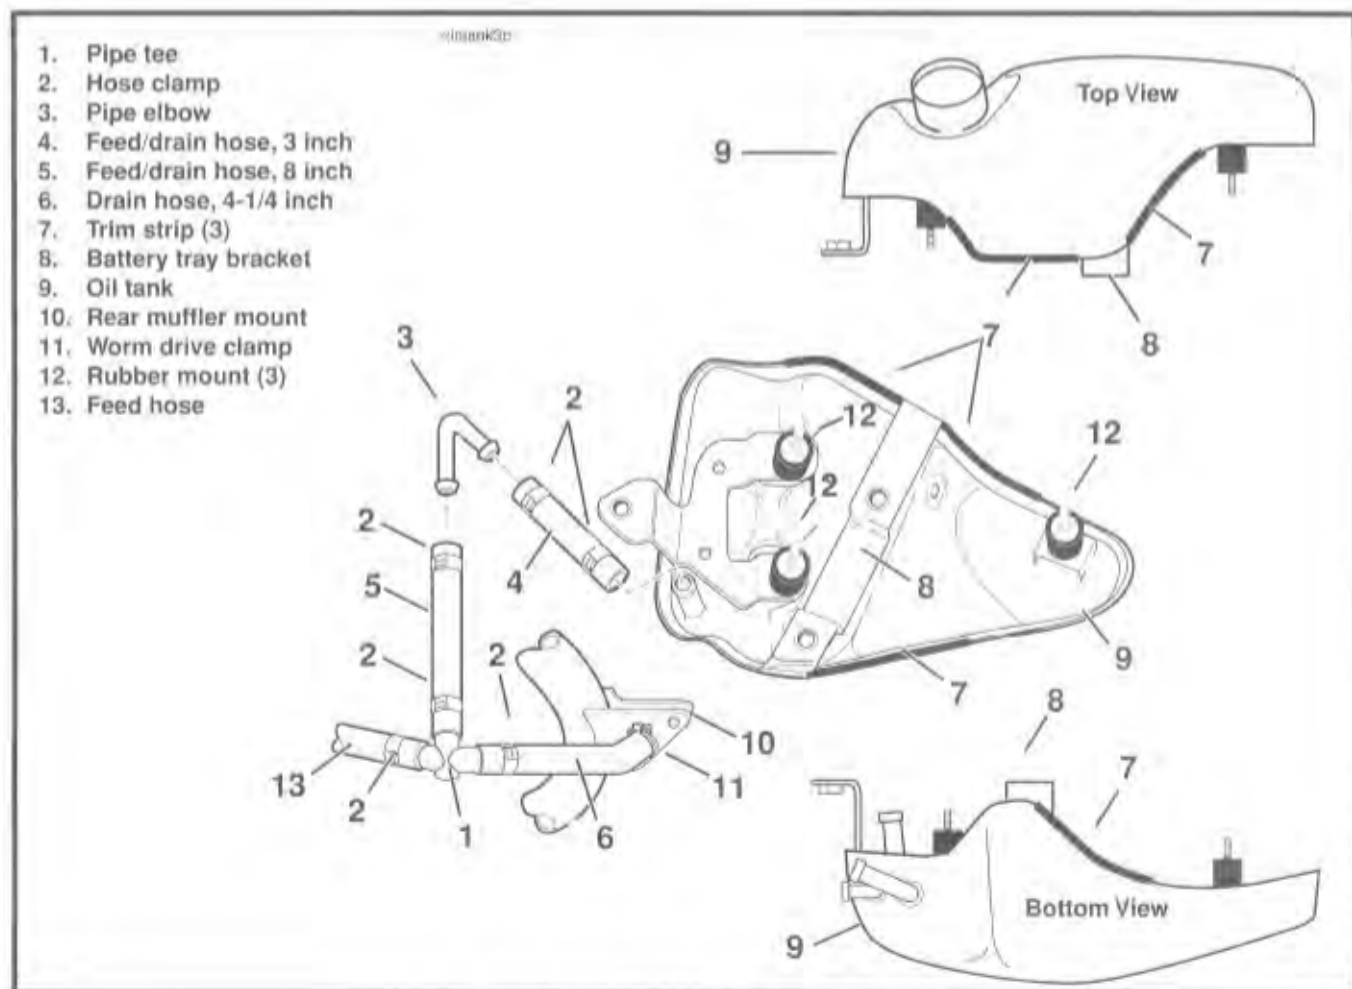

Figure 3-45. Engine Oil Tank Assembly
1. See Figure 3-45. Install three rubber mounts (12) onto oil tank (9). Note that washers are **not** used.
2. Install trim strips (7) in marked positions on upper and lower inboard seams of oil tank (9). Apply upper trim strips to seams on each side of battery tray bracket (8). Use a rubber mallet to seat strips on seams, if necessary. Verify that strips butt up against bracket.
2. See Figure 3-45. Disconnect and tag the three oil hoses from the pump as shown.